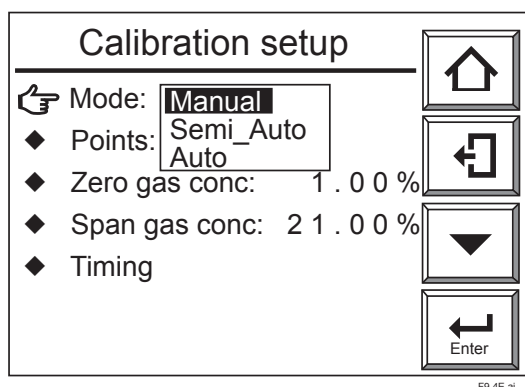

Figure 9.7 Calibration Setup display
- (1) Select the [Setup] key from the Basic panel display to display the Execution/Setup display. Then select "Maintenance" from the Execution/Setup display.
- (2) Select "Calibration setup" from the Maintenance display. Then select "Mode" from the Calibration setup display (see Figure 9.7).